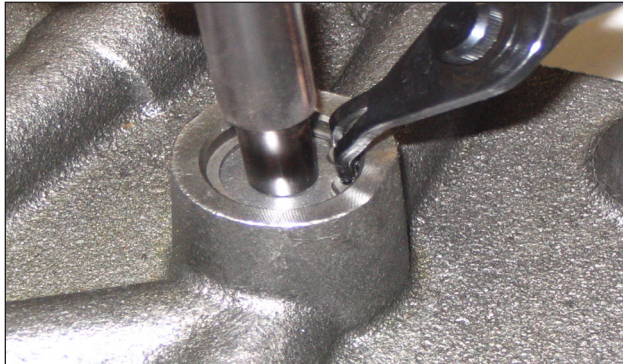

Fig 21
1. Press down on control valve washer using the control valve cover removal tool, Jacobs p/n 16978 to relieve spring pressure (See Fig. 21)
2. Remove retaining ring using retaining ring pliers (See Fig. 21).